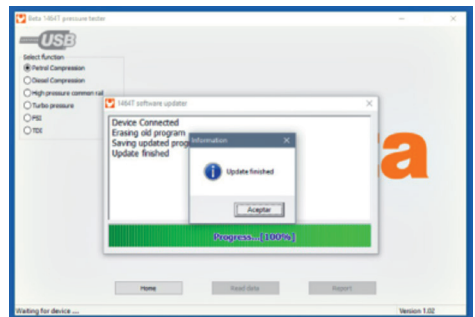

Fig.7
- Wait until the update process finishes, the PC will show the message "Update finished" (see fig.7).